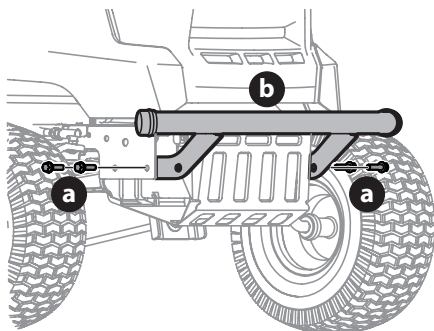

Figure 9
1. Remove the four hex screws (a) from the bumper (b) (Figure 9).
2. Position the bumper brackets to the **inside** of the tractor's frame and secure it in place with the four hex screws (a). Torque to 332-405 in-lbs (38-46 N-m) (Figure 9).